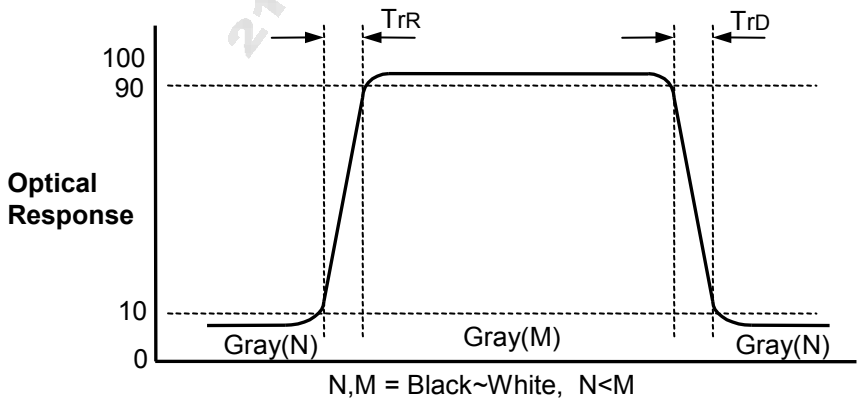

FIG.3 Response Time(G to G)
4. Response time is the time required for the display to transit from G(N) to G(M) (Rise Time, Tr_R) and from G(M) to G(N) (Decay Time, Tr_D). For additional information see the FIG. 3. ($N < M$)